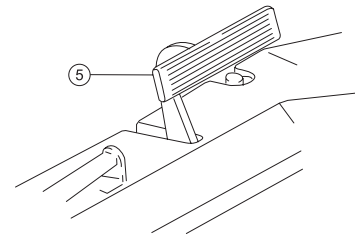

Figure 2-7
Deceleration pedal (5) (Figure 2-7)